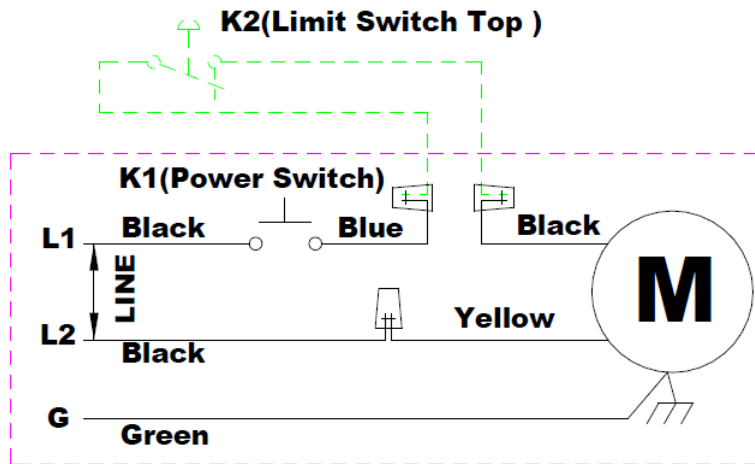

Fig. 14b
2. Have a certified electrician make the electrical connection for the K2 overhead limit switch to power unit's switch box, as shown in (Fig. 14b).